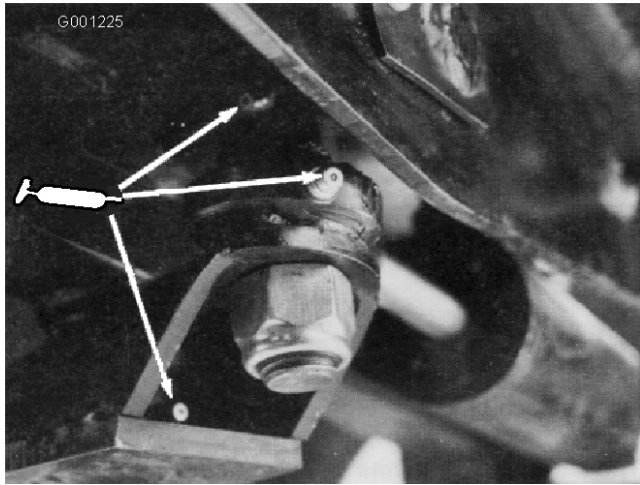

Figure 40
- Steering plate bushings (Figure 40)
- Axle pin bushing (Figure 40)